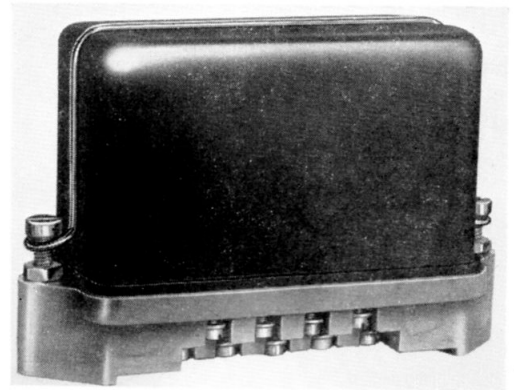

Fig. 1. Magnetic switch, Type 10B, No. 1
2. The switch (*fig. 1*) has its operating mechanism mounted on a melamine base, underneath which are the terminals; the cover is sealed by a synthetic rubber washer and held in position by a clip secured by two screws.